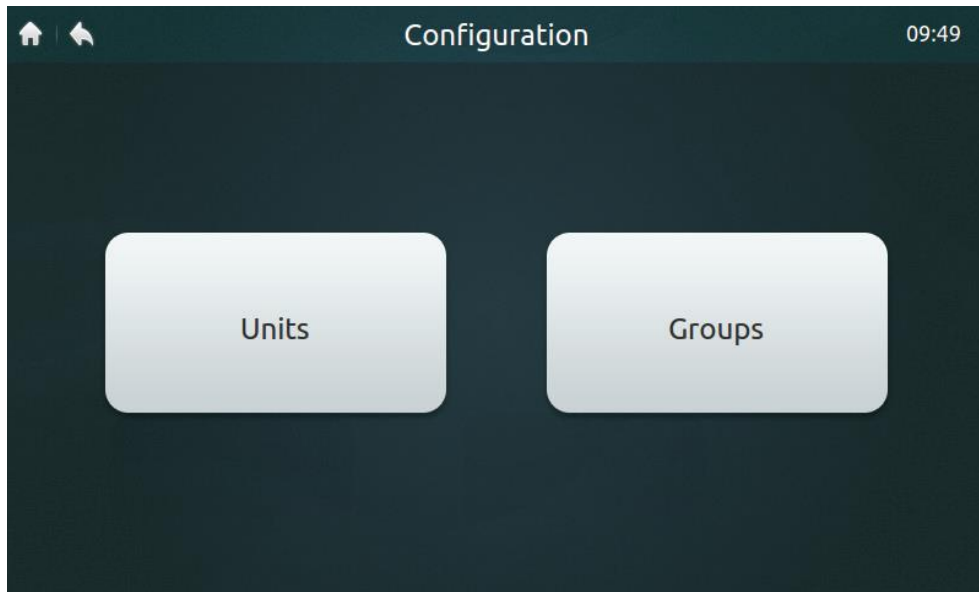
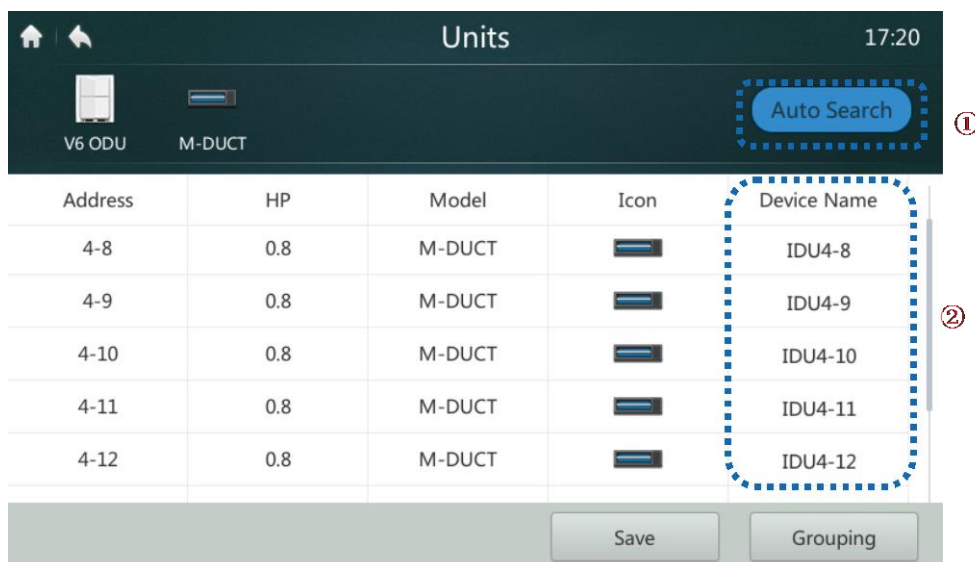
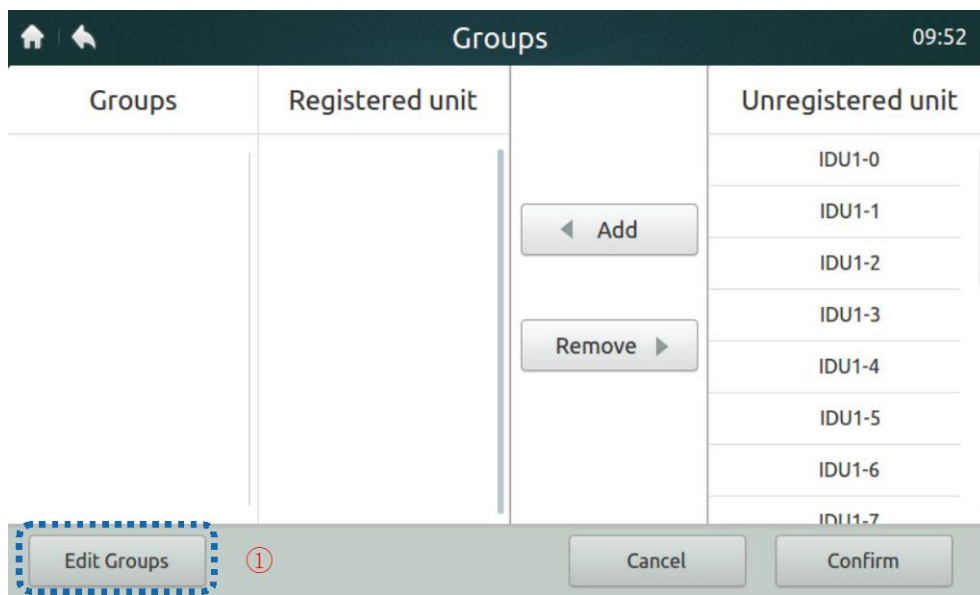
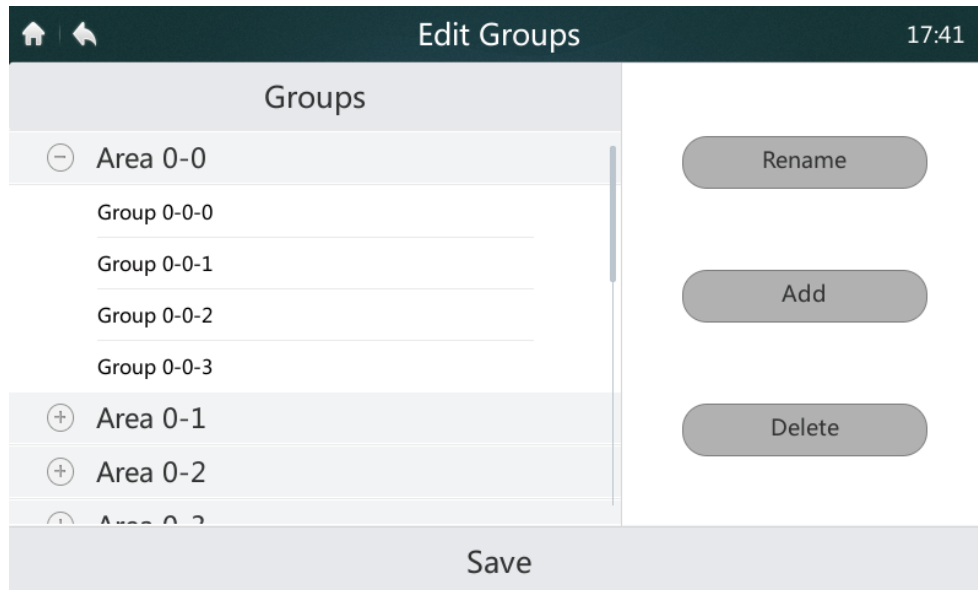

Figure 35 Homepage of Installation interface
Figure 36 Device installation page
Figure 38 Homepage 1 of Group View page
Figure 39 Editing a group
1. Tap the "Units" button, as shown in Figure 35, to enter the interface, as shown in Figure 36.
2. Tap the "Auto Search" button marked "1" in Figure 36. The connected device will be displayed on the interface. The table displays the IDU HP, IDU type (the correct type can be displayed correctly for second-generation IDUs only. Other types are first-generation IDUs), type icon (the correct type can be displayed correctly for the second-generation IDUs only. The Four-way Cassette icon is displayed for other units), and device name.
3. The default device name is "IDU + ODU network address-IDU address". The user can rename a device. Tap the area marked "2" in Figure 36 to display the input keyboard in the lower part of the screen, as shown below. Edit the device name of the corresponding address, and tap "Confirm".
1. Tap the "Groups" button marked "2" in Figure 35 to access the group view page in Figure 38. Figure 38 shows the interface where no groups are created.
2. First create a group. Tap the "Edit Groups" button marked "1" in Figure 38 to access the interface shown in Figure 39.
3. Groups can be classified into two levels (e.g.: level 1 - Area; level 2 - Group). Up to 10 groups can be created at level 1. Up to 5 groups can be created at level 2. Tap the "Add" button, as shown in Figure 38, to add the first level group by default. Tap to select the first level Area. Tap the "Add" button to add the second level group. To delete a group, select this group, and tap "Delete".
4. Select a group and tap "Rename", as shown in Figure 39, to edit the selected group name.
5. Tap the "Save" button, as shown in the lower part of Figure 39, to save the edited information.